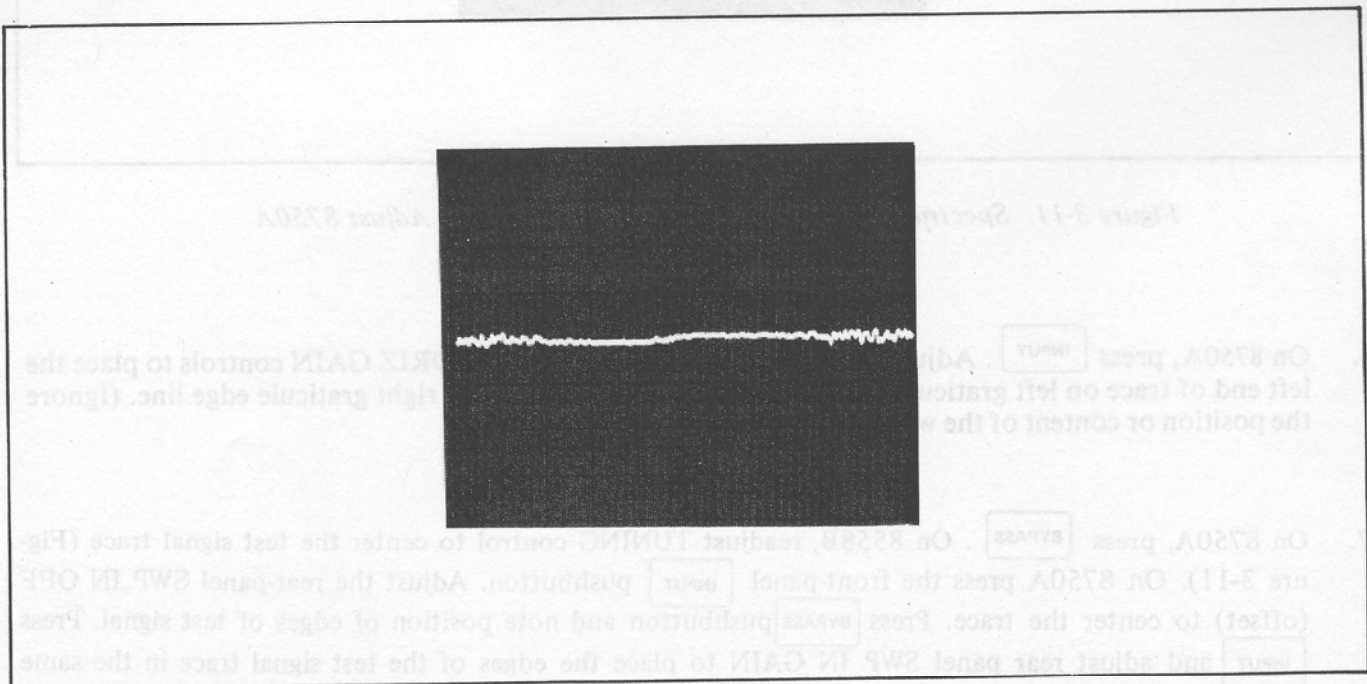

Figure 3-12. CRT Trace Showing Front-Panel VERT POSN Control Correctly Adjusted
8. On 8750A, press  ,  ,  , then  . The CRT trace should look like Figure 3-12. Adjust front-panel VERT POSN to place the CRT trace on the center graticule line.